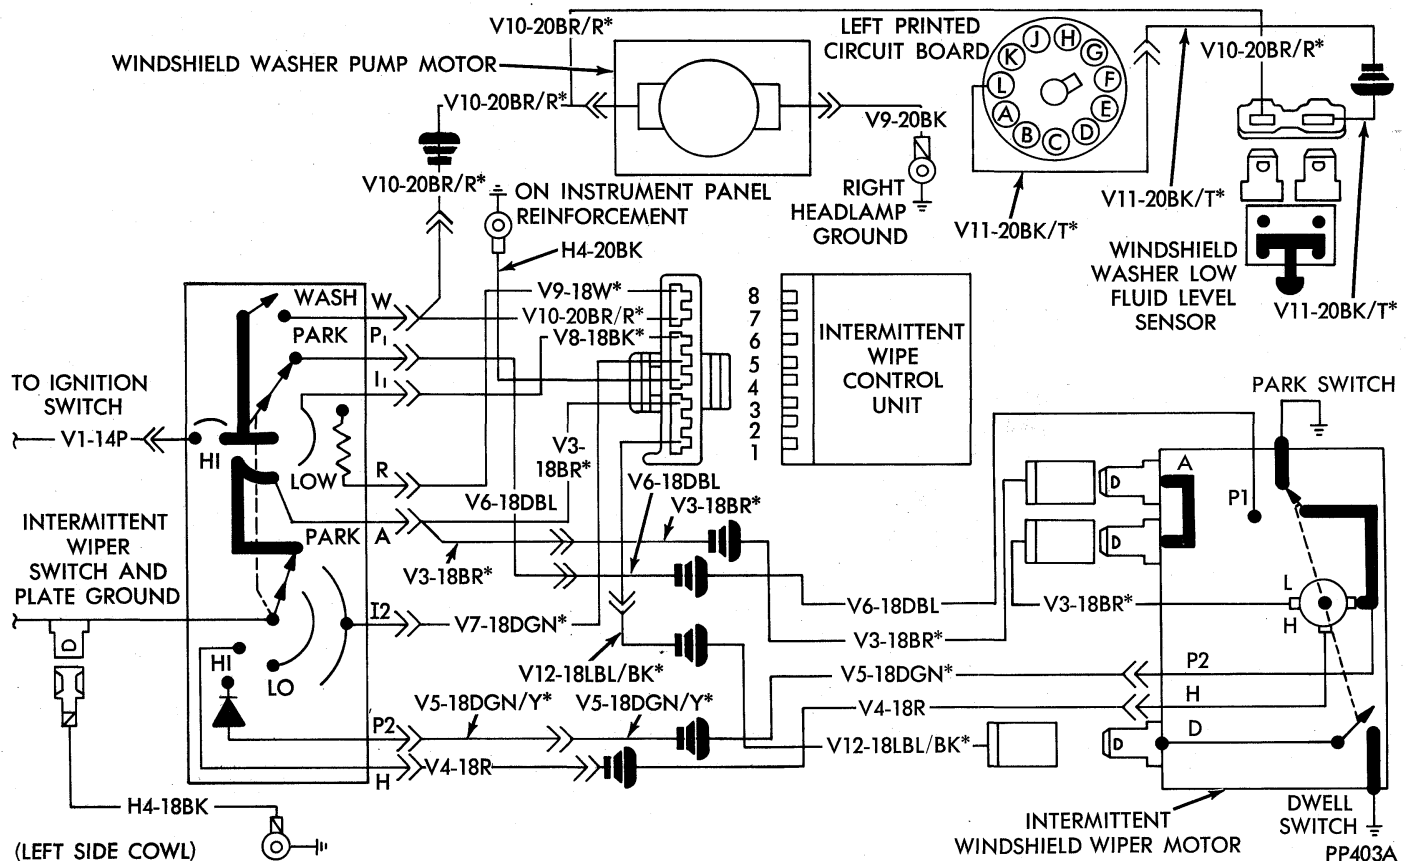

Fig. 12—Intermittent Wiper Motor Wiring Schematic
INTERMITTENT WIPE PANEL SWITCH TEST (Fig. 12)
(2) Pull brushes back in brush slots and push brush lead into holding notch.
(3) Clean commutator with ink eraser, install a flat washer, spring washer and flat washer on armature shaft. Place armature in brush holder assembly.
(4) Release brush leads from brush holder notches (check to see brushes are spring loaded against the commutator).
(5) Align the window in the motor housing with the brush holder and install it quickly over the armature so the magnets in the motor housing do not pull the armature out of the brush holder. Make sure that the motor housing is flush with the gear housing and over the four detents.
(6) Install motor housing through bolts.
(7) Install resistor assembly and part number tag. Secure with screw (install tag atop resistor bracket with screw head against ground strap).
(8) Bench test wiper motor assembly by connecting a 12 volt power source positive lead in series with an ammeter to terminal "L" and the negative lead to terminal "P2" on B, C, and M body standard wiper systems and B, C, F, and M intermittent wiper systems (Fig. 12). For "F" body standard wiper system connect positive lead to terminal "L" and negative lead to motor housing. Tap the assembly gently with a mallet to align bearings in the motor housing and gear housing during the run period. Watch ammeter and stop tapping when meter reads less than 2-1/2 amps.
(9) Install bulkhead seal.